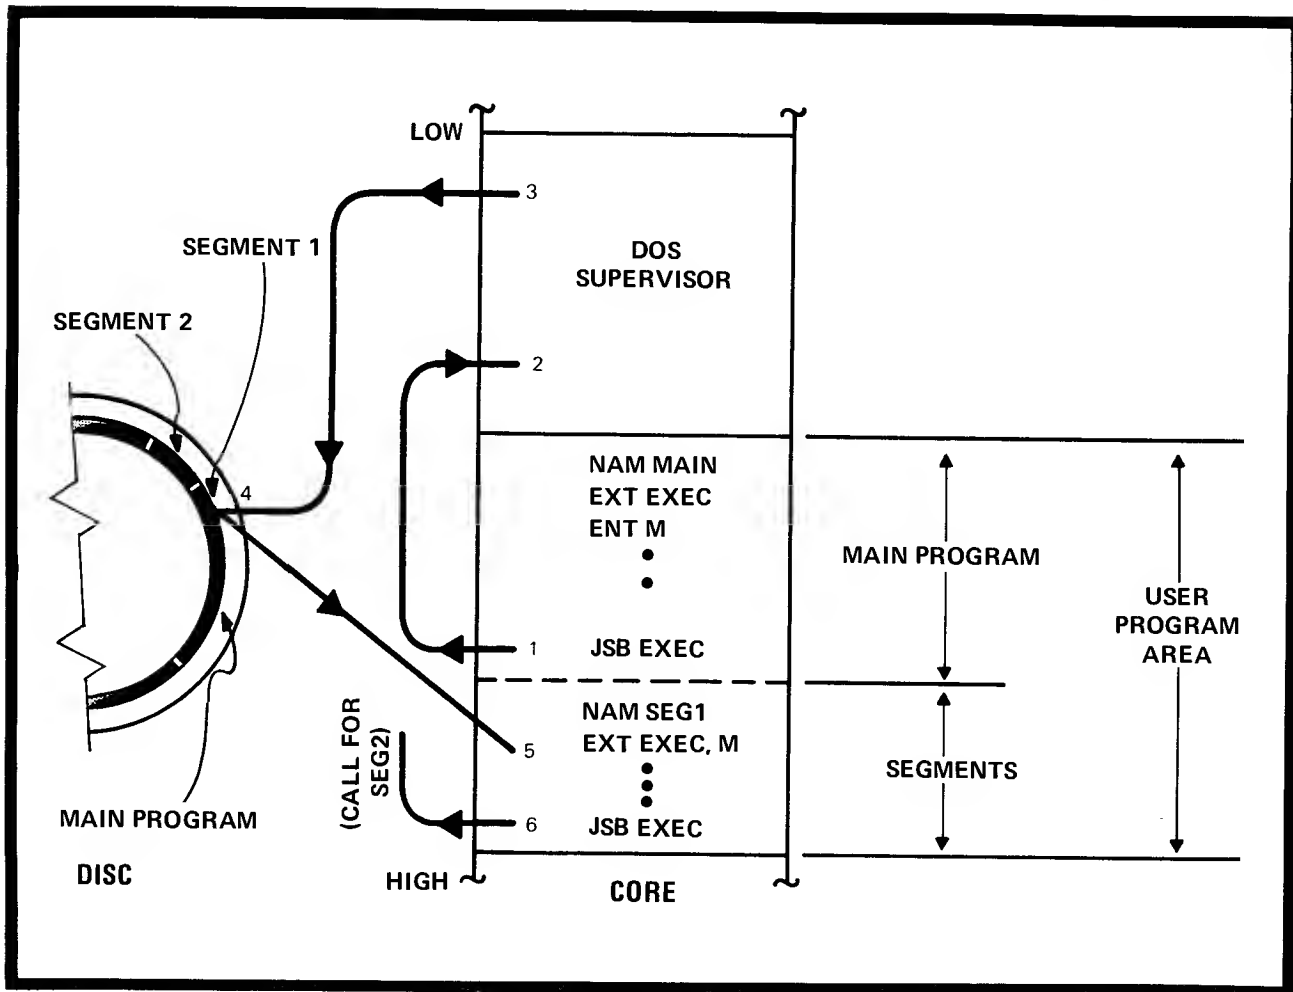

Figure 4-2. Main Calling Segment
Figure 4-2 shows how an executing program may call in any of its segments from the disc using the PROGRAM SEGMENT LOAD EXEC request (1-2). DOS locates the segment on the disc (3-4), loads it into core (5) and begins executing it. The segment may call in another of the main program's segments using the same EXEC request (6).